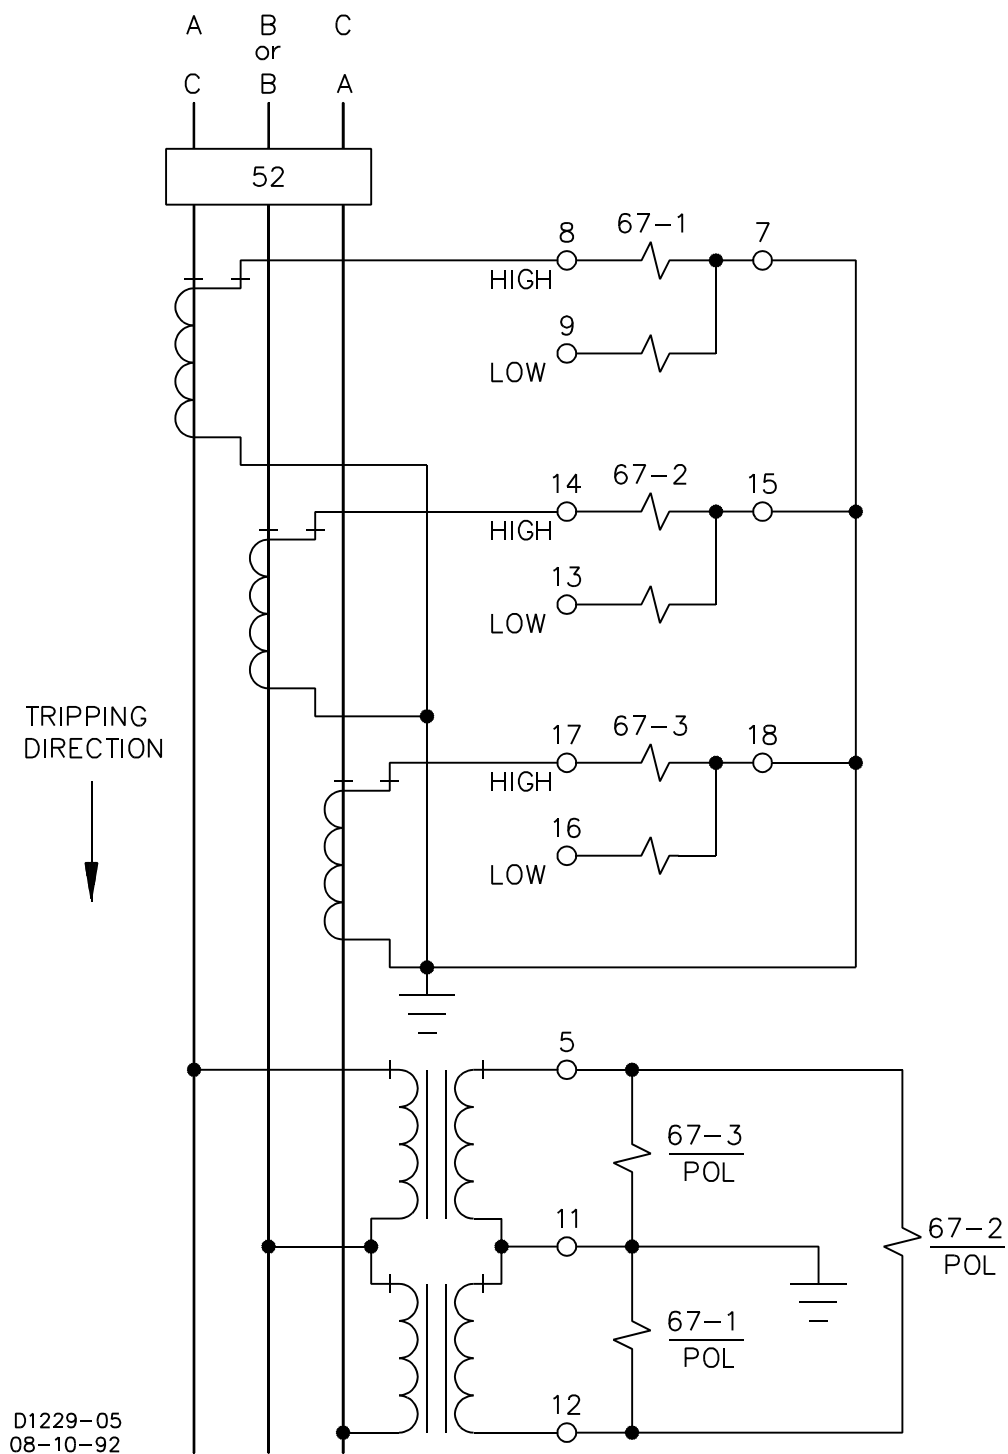

Figure 4-9. Three-Phase AC Connections
- Typical ac connections for three-phase relays are shown in Figure 4-9.